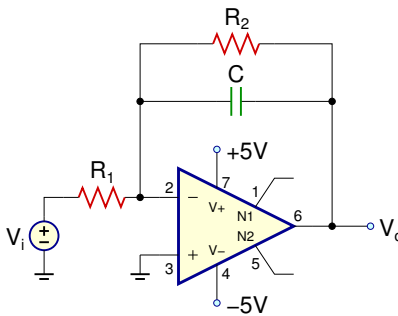

Figure 2: Lossy integrator circuit
Notice that the gain V_o/V_i is theoretically infinite at DC ($s = 0$), hence any small DC signal at the input will saturate the opamp output over time. In a practical integrator circuit, a large resistor in parallel with the capacitor is required to prevent the capacitor from storing charge due to offset currents and voltages at the input. This configuration is known as “lossy” integrator or a first-order lowpass circuit, which is shown in Fig. 2. The output voltage is now given by the following expression:
1. For the lossy integrator in Fig. 2, derive the time-domain equation for the output in terms of the input.
1. Draw the schematics for the lossy integrator in Fig. 2 with the calculated component values.
1. Build the lossy integrator in Fig. 2 with the simulated component values.
3. For the lossy integrator in Fig. 2: